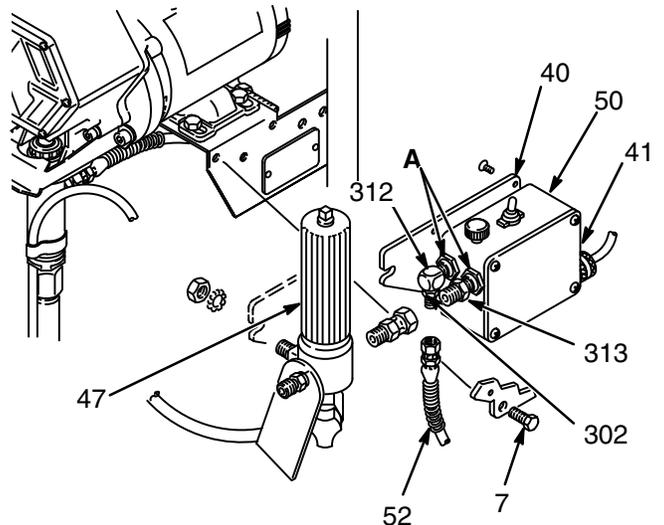

Fig 23-2
2. Disconnect the hose (52). See Fig 23-2.
4. Remove the screws (7). See Fig 23-2.
6. Remove the mounting bracket (40). Remove the fittings (302, 312, and 313). Remove the fluid filter (47). Install these parts on the new pressure control. See Fig 23-2.